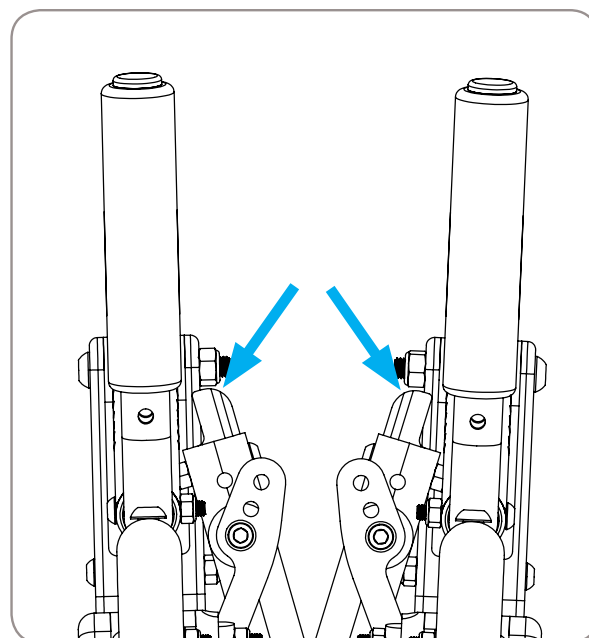

Figure 11
1. Push down and out evenly on the folding cross braces to fully expand the frame. Reference Figure 11.